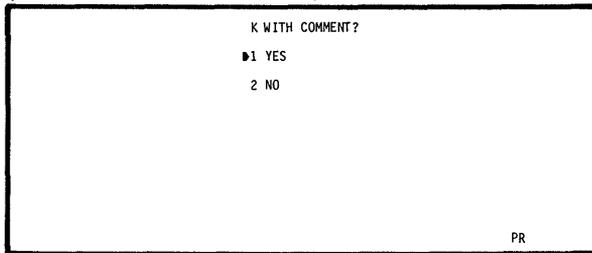

Fig. 14.8
- 1 : Printing of circuit . . .Screen shown in Fig. 14.8 is displayed.